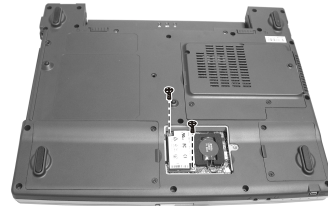

Figure 2-16 Remove two screws
3. Remove two screws fastening the modem card. (Figure 2-16)